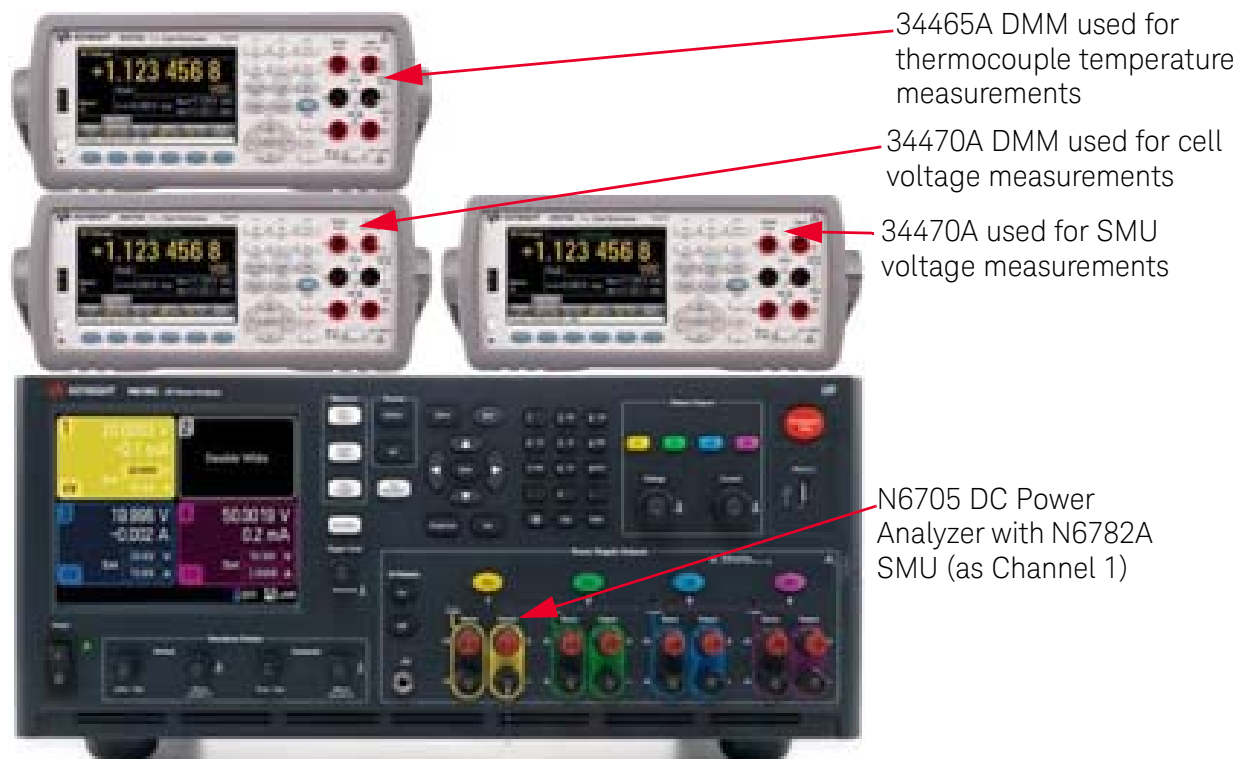

Figure 3 Typical BT2191A Instrument Setup
- 2 Set the N6705C Power Analyzer and the three DMMs on your test bench. To simplify cabling and minimize desk space, consider stacking the instruments as shown in Figure 3 below.